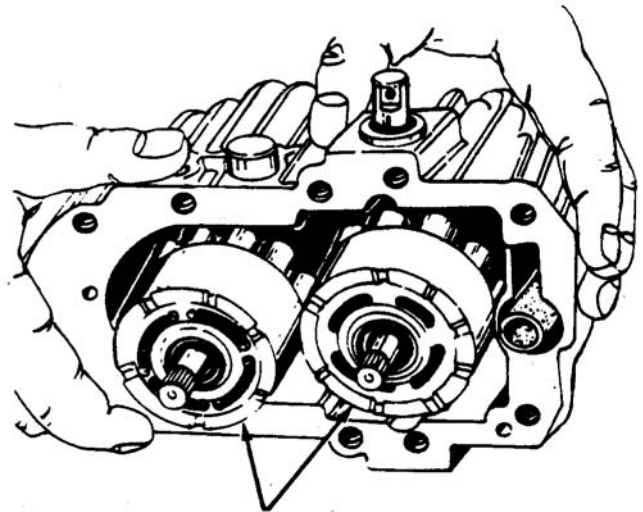

Figure 6-16. Cylinder Block
3. Cylinder block kit and thrust ball bearing disassembly. See Figure 6-16.